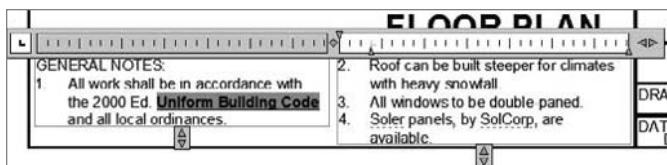

FIGURE 8.68 The new line of text with the misspelled words
4. Notice how the words *Soler* and *SolCorp* are underlined with a dashed line (see Figure 8.68).